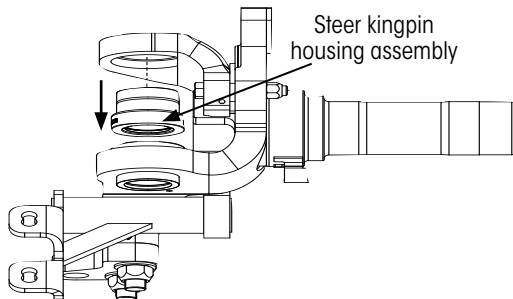

Figure 23: Removing kingpin bushings
16. **Press** out each kingpin housing assembly by forcing it inward to the knuckle (Figure 23).